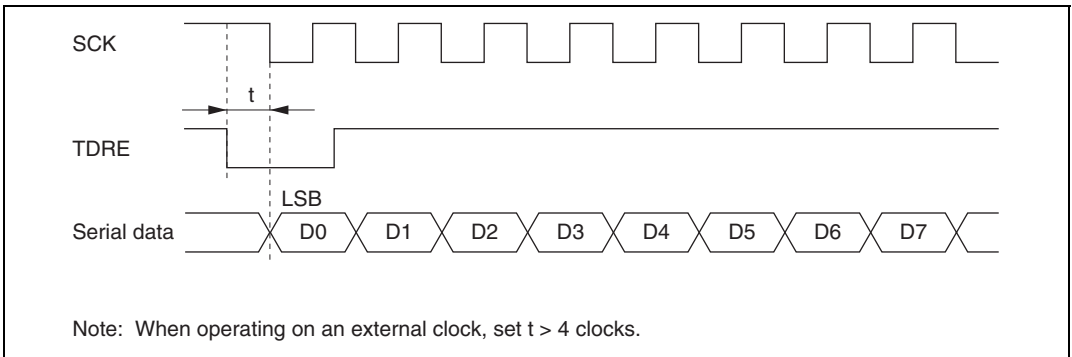

Figure 12.27 Example of Clocked Synchronous Transmission by DTC
(8) Restrictions on Use of DMAC or DTC
- (a) When an external clock source is used as the serial clock, the transmit clock should not be input until at least 5 ϕ clock cycles after TDR is updated by the DMAC or DTC. Misoperation may occur if the transmit clock is input within 4 ϕ clocks after TDR is updated. (Figure 12.27)